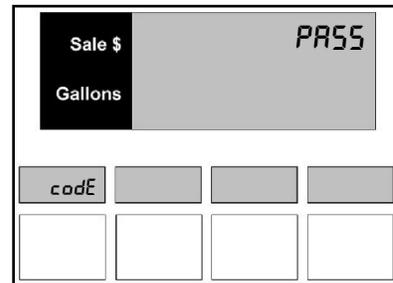

Figure 3.1 – Access Code Entry
1. Press the **3** button and then the **Mode** button on the Manager's Keypad or Press the **3** button and then the hidden **Enter** button on the Local Preset Keypad. The display shown in *Figure 3.1* appears.